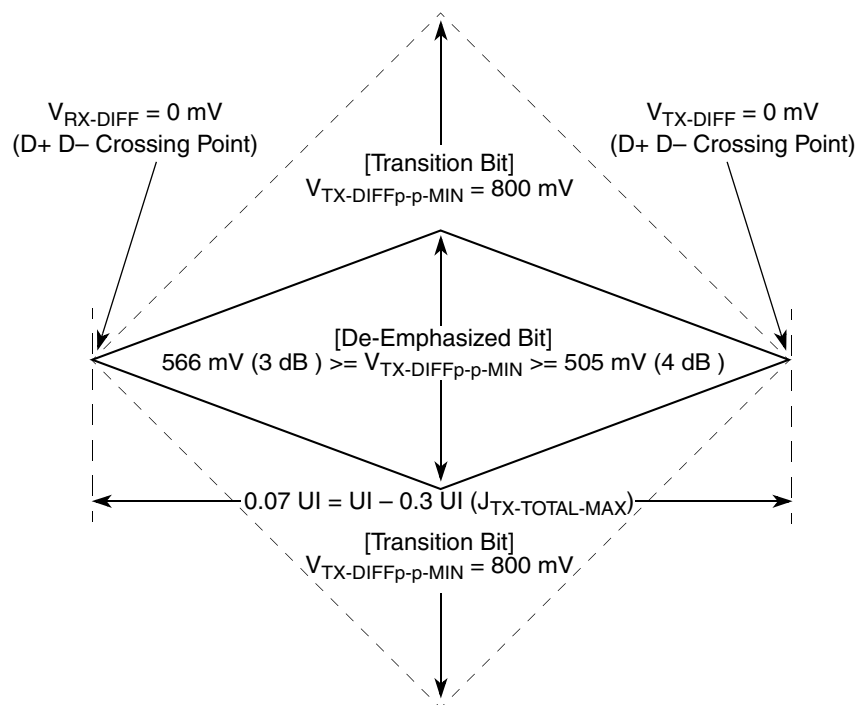
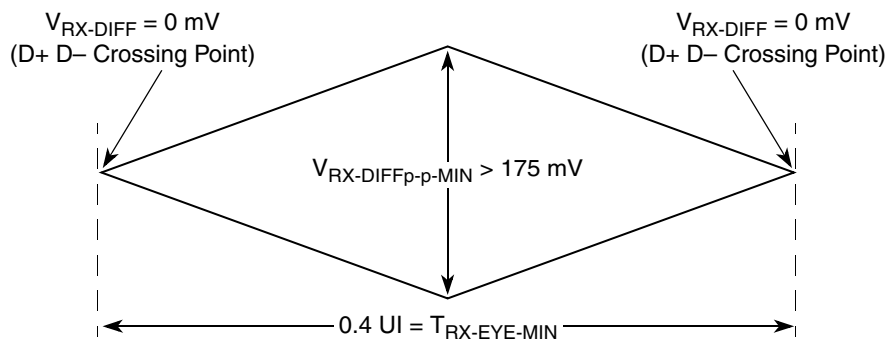
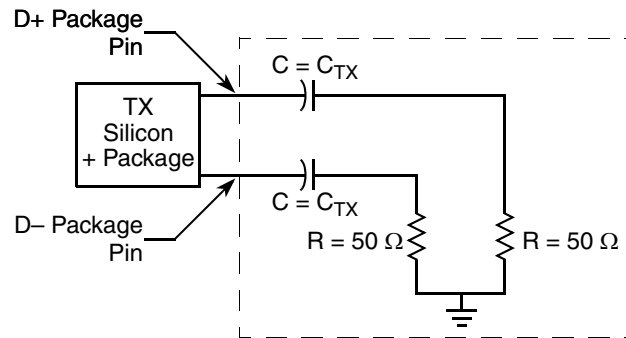

Figure 50. Minimum Transmitter Timing and Voltage Output Compliance Specifications
Figure 51. Minimum Receiver Eye Timing and Voltage Compliance Specification
Figure 52. Compliance Test/Measurement Load
2. Specified at the measurement point into a timing and voltage compliance test load as shown in Figure 52 and measured over any 250 consecutive TX UIs. (Also refer to the transmitter compliance eye diagram shown in Figure 50)
4. The Transmitter input impedance shall result in a differential return loss greater than or equal to 12 dB and a common mode return loss greater than or equal to 6 dB over a frequency range of 50 MHz to 1.25 GHz. This input impedance requirement applies to all valid input levels. The reference impedance for return loss measurements is 50 Ω to ground for both the D+ and D- line (that is, as measured by a Vector Network Analyzer with 50 ohm probes—see Figure 52). Note that the series capacitors C_{TX} is optional for the return loss measurement.
5. Measured between 20-80% at transmitter package pins into a test load as shown in Figure 52 for both V_{TX-D+} and V_{TX-D-} .
The TX eye diagram in Figure 50 is specified using the passive compliance/test measurement load (see Figure 52) in place of any real PCI Express interconnect + RX component.
- Specified at the measurement point and measured over any 250 consecutive UIs. The test load in Figure 52 should be used as the RX device when taking measurements (also refer to the Receiver compliance eye diagram shown in Figure 51). If the clocks to the RX and TX are not derived from the same reference clock, the TX UI recovered from 3500 consecutive UI must be used as a reference for the eye diagram.
- The Receiver input impedance shall result in a differential return loss greater than or equal to 15 dB with the D+ line biased to 300 mV and the D- line biased to -300 mV and a common mode return loss greater than or equal to 6 dB (no bias required) over a frequency range of 50 MHz to 1.25 GHz. This input impedance requirement applies to all valid input levels. The reference impedance for return loss measurements for is 50Ω to ground for both the D+ and D- line (that is, as measured by a Vector Network Analyzer with 50 ohm probes - see Figure 52). Note: that the series capacitors C_{TX} is optional for the return loss measurement.
The RX eye diagram in Figure 51 is specified using the passive compliance/test measurement load (see Figure 52) in place of any real PCI Express RX component.
Note: In general, the minimum Receiver eye diagram measured with the compliance/test measurement load (see Figure 52) will be larger than the minimum Receiver eye diagram measured over a range of systems at the input Receiver of any real PCI Express component. The degraded eye diagram at the input Receiver is due to traces internal to the package as well as silicon parasitic characteristics which cause the real PCI Express component to vary in impedance from the compliance/test measurement load. The input Receiver eye diagram is implementation specific and is not specified. RX component designer should
provide additional margin to adequately compensate for the degraded minimum Receiver eye diagram (shown in Figure 51) expected at the input Receiver based on some adequate combination of system simulations and the Return Loss measured looking into the RX package and silicon. The RX eye diagram must be aligned in time using the jitter median to locate the center of the eye diagram.
The reference impedance for return loss measurements is 50Ω to ground for both the D+ and D- line (that is, as measured by a Vector Network Analyzer with 50Ω probes—see Figure 52). Note that the series capacitors, C_{TX} , are optional for the return loss measurement.
The AC timing and voltage parameters must be verified at the measurement point, as specified within 0.2 inches of the package pins, into a test/measurement load shown in Figure 52.